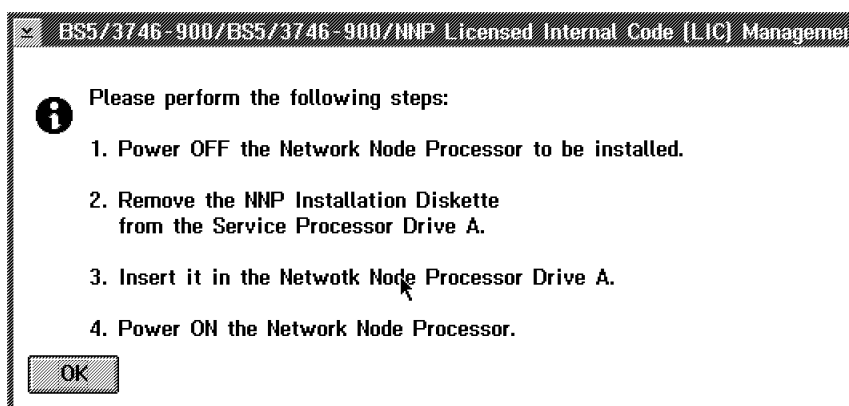

Figure 6. NNP-A Licensed Internal Code Management
- ___ 10. When the process is completed, perform the following steps, see Figure 6 on page 11, then click on **OK**.